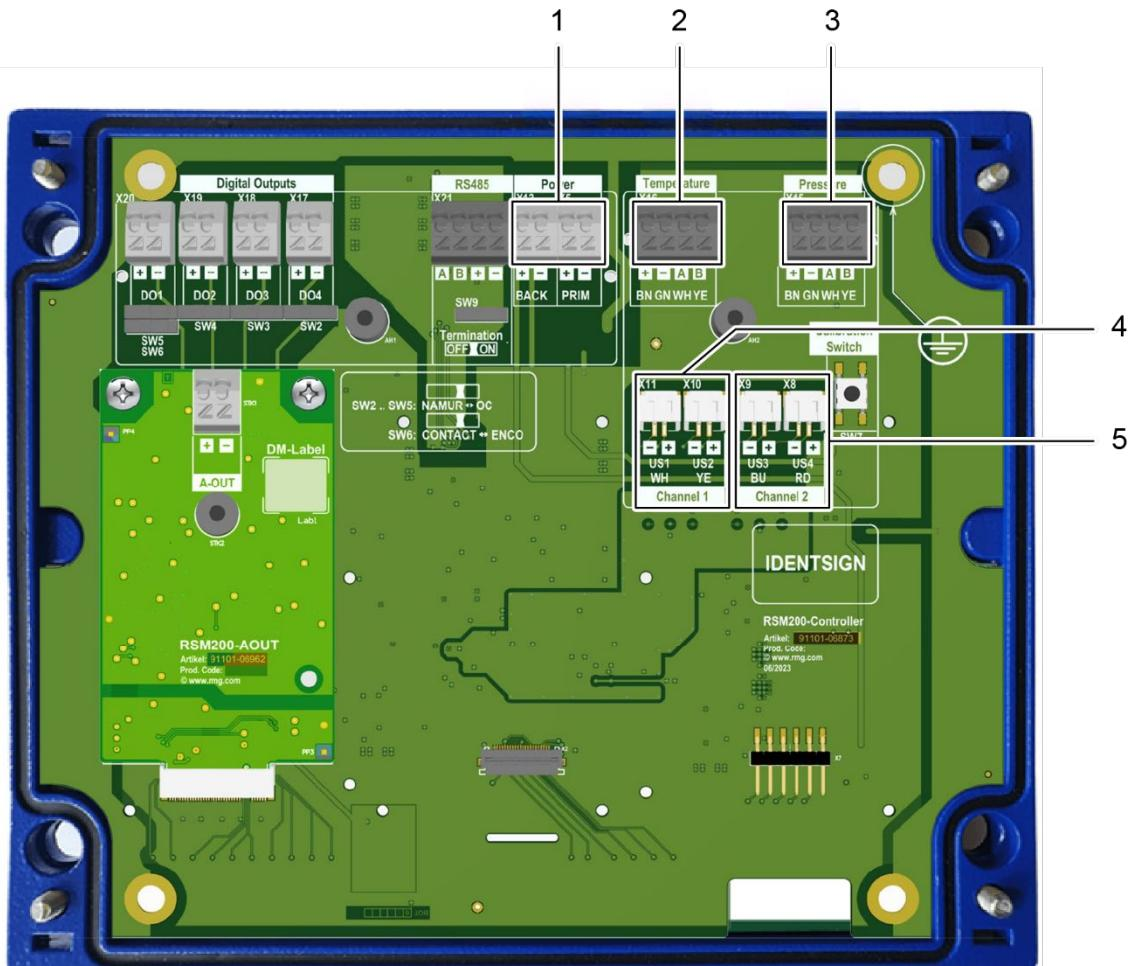
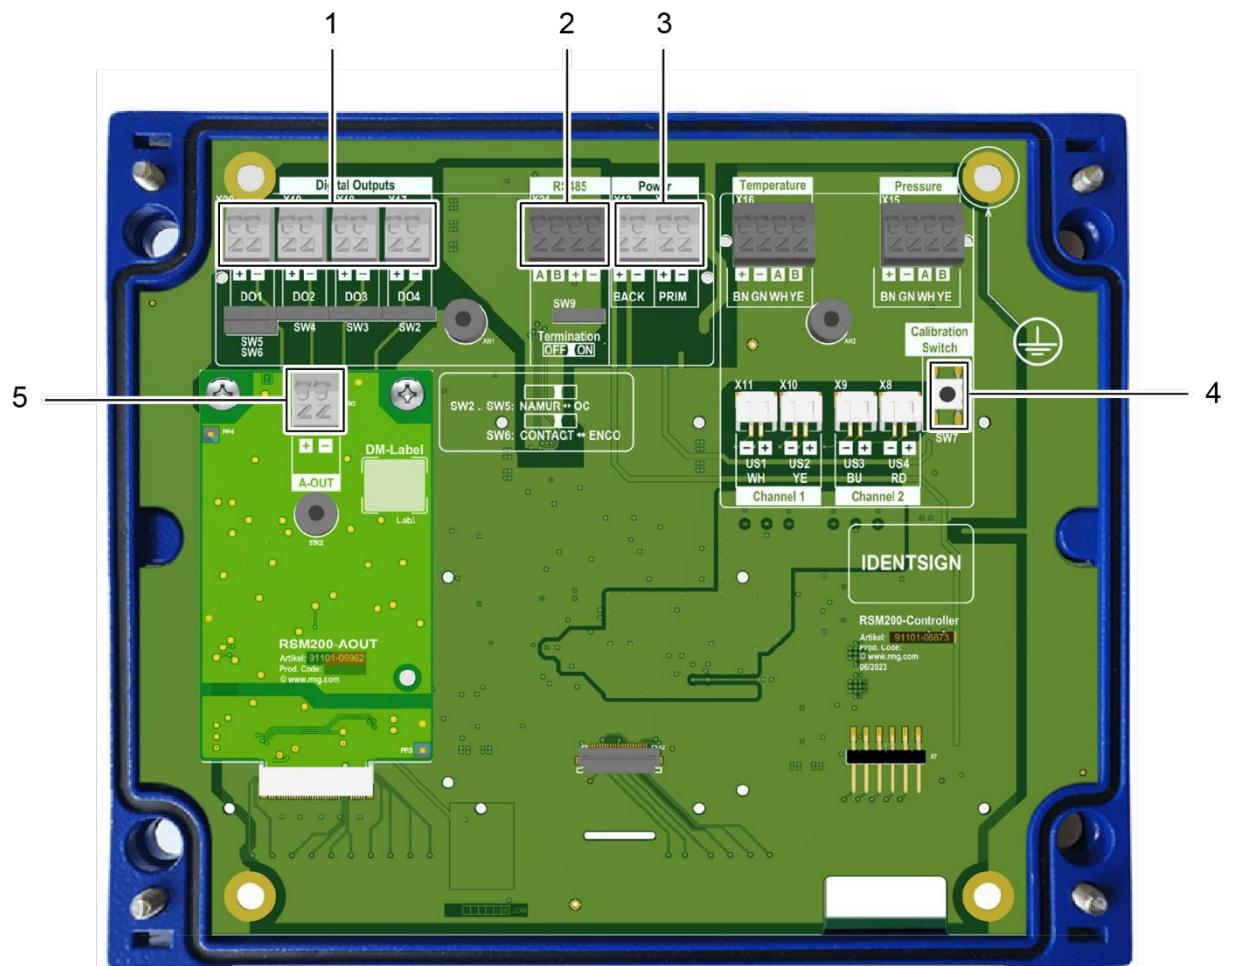

Figure 9: Internal terminal assignment of the RSM 200
Figure 10: Customer-side pin assignment of the RSM 200
The terminals marked 1 - 3 (terminal X5, X21 and X17 to X20) must be connected by the customer. Refer to *Figure 10:* for the assignment. The connection of internal sensors (e.g. ultrasonic sensors [Channel 1, ...], pressure and temperature) has already been carried out at the factory in accordance with applicable regulations.
The RSM 200 allows a 4...20 mA signal output. To do this, the current module must be plugged onto the circuit board. The 4...20 mA current loop can then be connected to the "A-Out" terminals of the current module (see Figure 10, item 5).
Use the wire end ferrules for the connecting cables and route them in from below; a seal holds the cable. To be able to pull a cable out again, press the small white square (marked with the X) down using a small screwdriver (at the bottom in *Figure 9: Internal terminal assignment of the RSM 200* and *Figure 10: ; top of the plug strip*) in order to open the locking device. Keep the square depressed and pull the cable out of the plug strip.